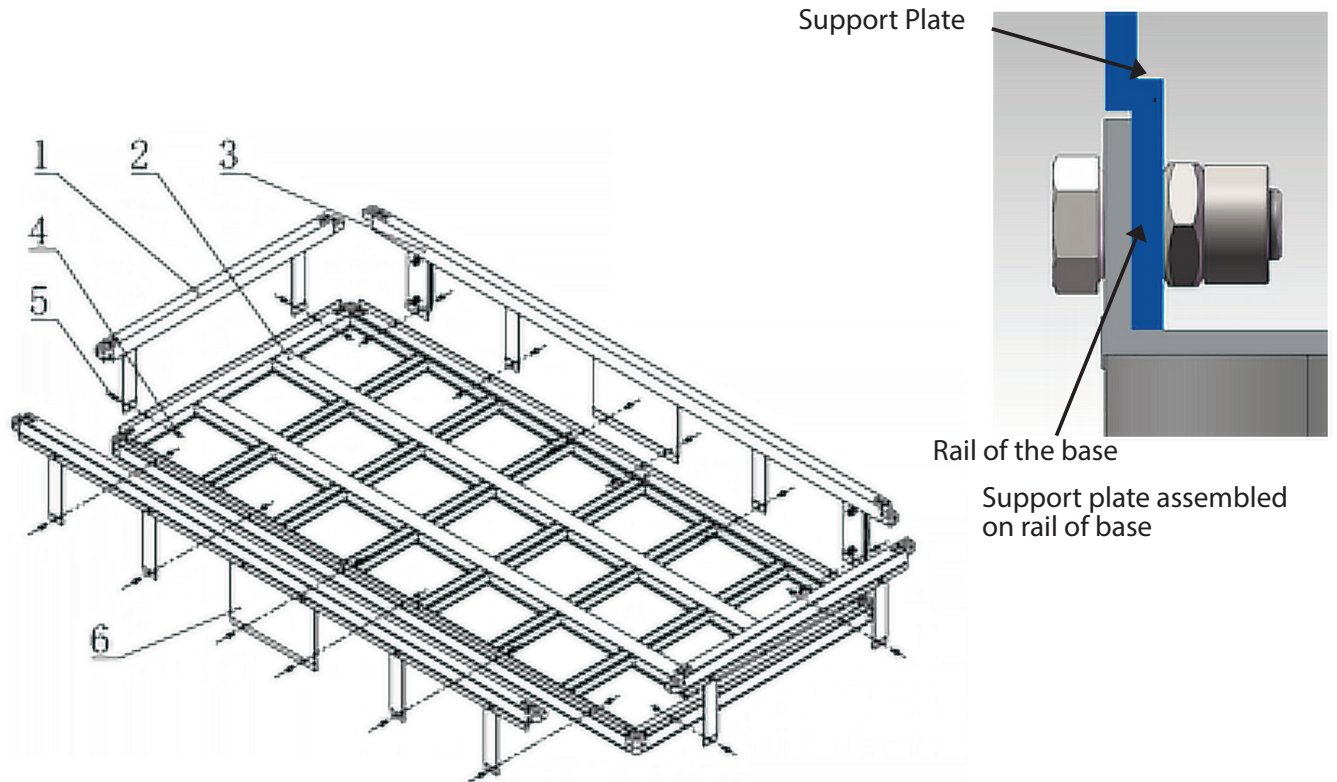

FIG. 1
Step 1: Lay the base (2) flat and install the front (6), back (3) and side (1) frames on, using M4 hex bolt (5) and M4 locknut (4). Note: All support plates on frames should be put inside the base's rails; then align all the holes and tighten with bolts and locknuts. See FIG.1.